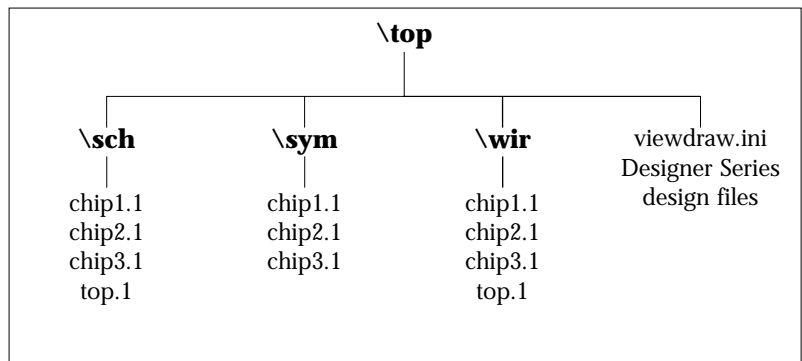

Figure 4-1. Directory Structure for Multichip Simulation
- 1. Create a top level schematic and instantiate the individual chip designs.** This example, assumes there are three designs with instance names “chip1,” “chip2,” and “chip3.” The name of the top level schematic is “top.” Figure 4-1 depicts the directory structure for this example. Names written in normal text represent file names and those in bold text represent directory names.